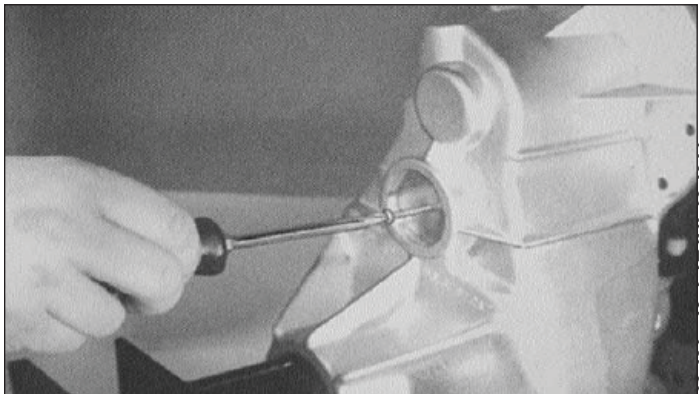

Figure 6-43. Removing Cup Plugs
7. Punch or drill a 1/8" diameter hole near the center of each intermediate cup plug. Insert a suitably sized sheet metal screw until the metal bore plug is forced out of the bearing bore (Figure 6-43).